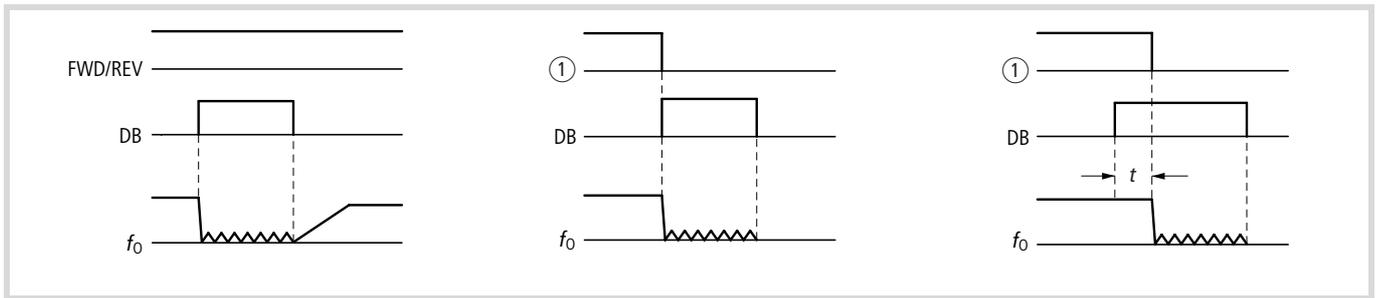

Figure 79: Function chart for DB (DC braking)
① Start signal through keypad
- ▶ Then, under PNU A053, enter a waiting time t (→ Fig. 79) from 0 to 5.0 s, which is to expire after activation of the DB input before DC braking is activated.